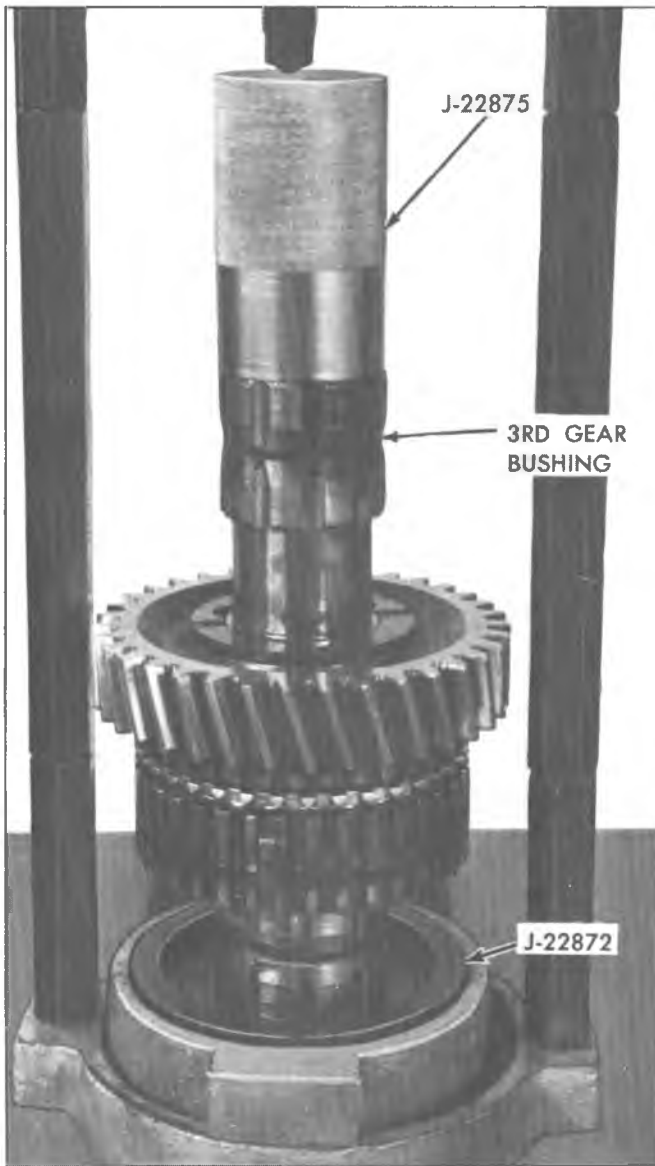

Fig. 18Q--Installing 3rd Speed Gear Bushing
6. Install 3rd speed gear thrust washer onto mainshaft with tang on thrust washer in slot on shaft and against 2nd speed gear bushing. Then press 3rd speed gear bushing onto mainshaft using Tool J-22875 until it bottoms against thrust washer (fig. 18Q).